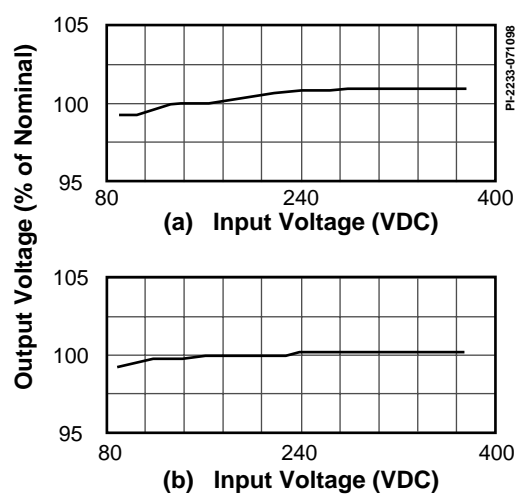

Figure 6 (a). Line Regulation at 3.5 W Output.
**Line Regulation (Figure 6(a) and 6(b))** - The amount of change in DC output voltage for a given change in the DC input voltage is called line regulation. The maximum change in output voltage is within  $\pm 1\%$ .